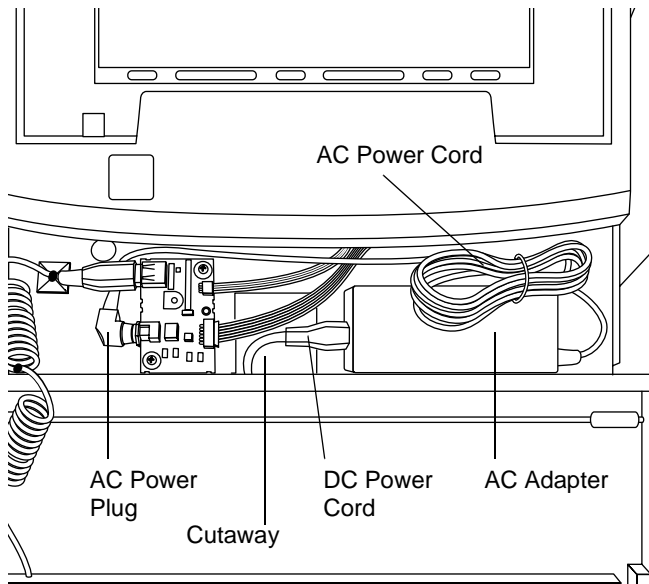

Figure 5. AC Adapter Location
12. Locate the Velcro strip on the right-hand side of the tray. This is the location at which the AC Adapter will be installed (reference Figure 5).
- Route the AC power cord around the adapter, as shown in Figure 5. Plug the AC power plug into the circuit card, and bundle the excess cable above the adapter.